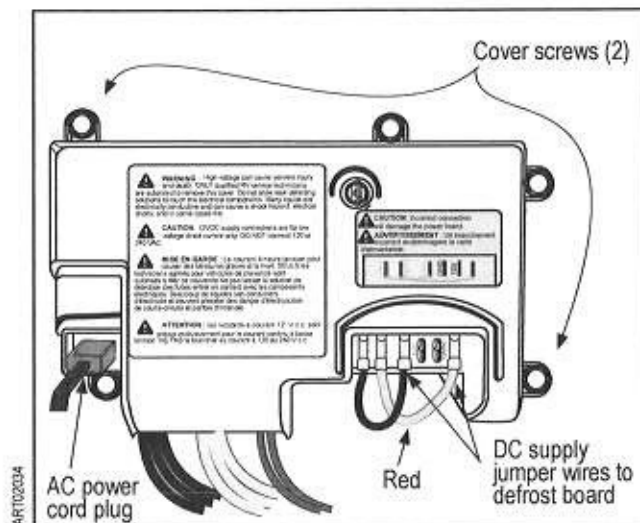

Figure 9. Remove the Power board Cover
2. Unplug the AC power cord plug from the bottom left of the power board. Refer to Figure 9.
4. Replace the power board cover and use the nut driver to replace the two screws. Refer to Figure 9.
4. Connect the small end of the black AC power cord to the bottom left of the power board. Refer to Figure 9.